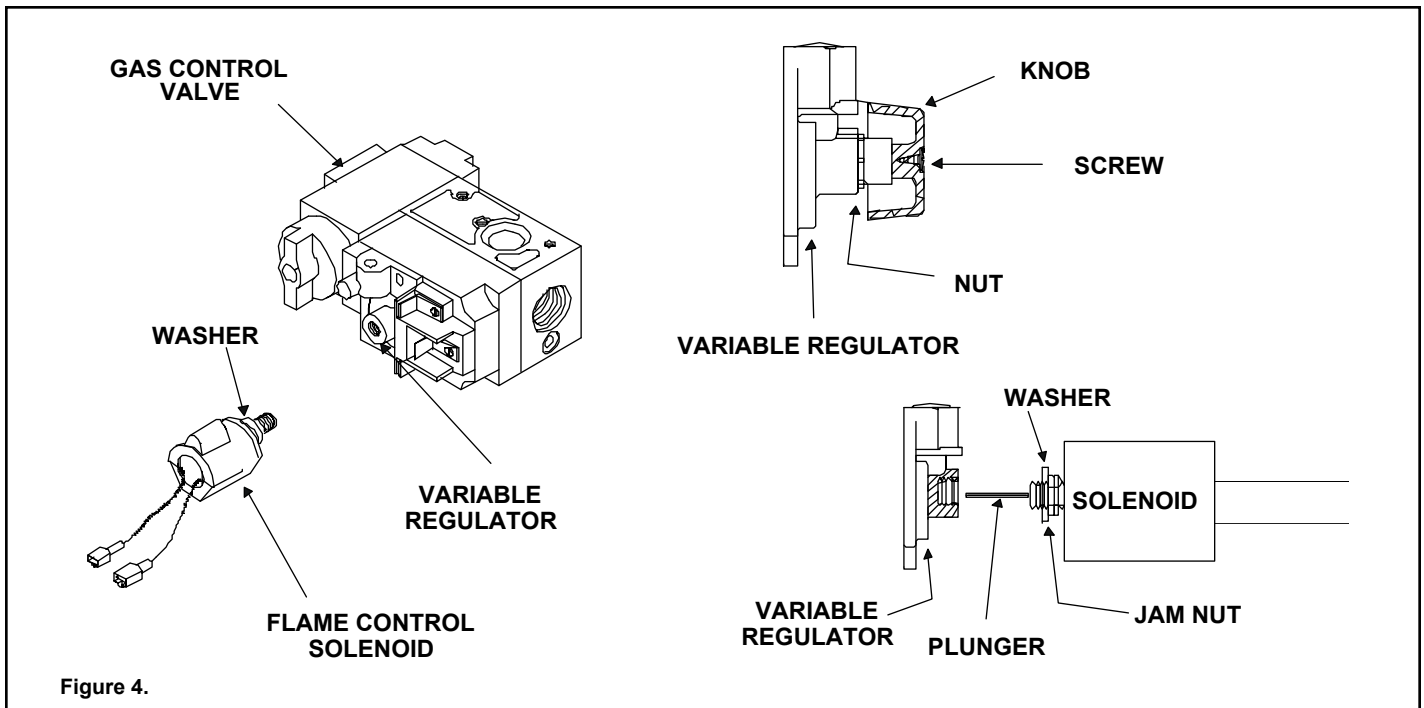

Figure 4.
6. Tighten the jam nut (see Figure 4) to the face of the variable regulator body.
4. Place washer on flame control solenoid (see Figure 4).
5. Insert the correct plunger (blue - natural gas, red - propane) into the flame control solenoid (see Figure 4).